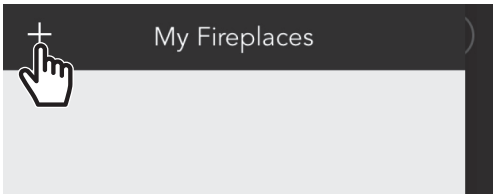
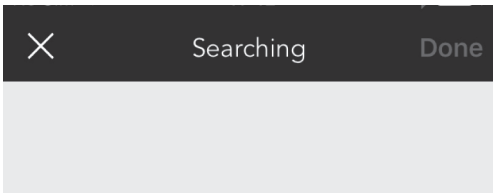

Fig. 2
Fig. 3
4. Tap "+" icon (Fig. 2) and start searching for the fireplace nearby (Fig. 3)